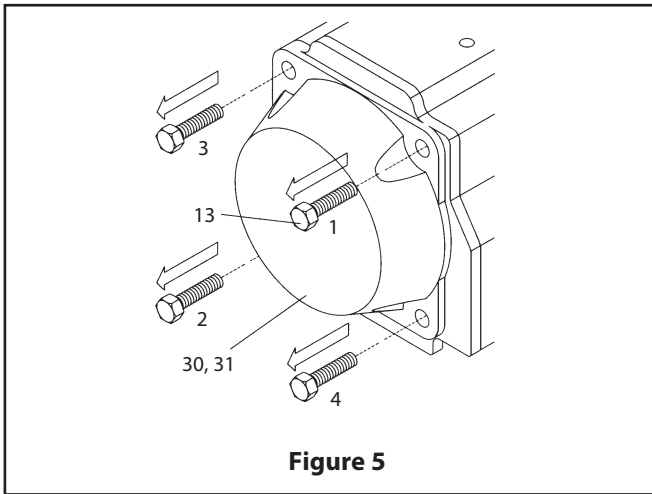
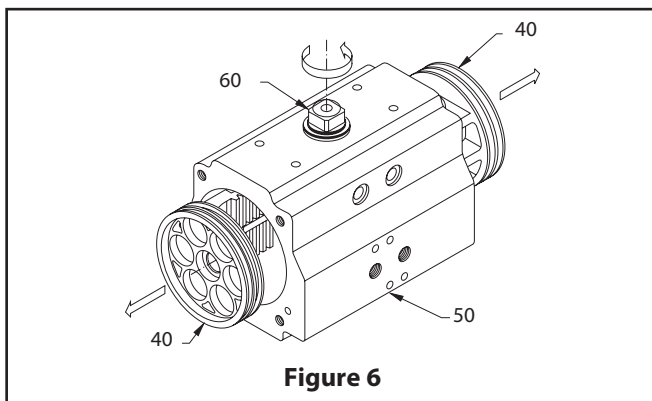

Figure 5
Figure 6
- A. Remove both stop cap screws (02) together with nut (04) and washer (03).
- B. Remove stop screw o-rings (11) and discard if replacing all soft parts.
3. End Cap (30, 31) Disassembly, (Figure 5):
- A. Remove the end cap bolts (13) in the sequence shown in (Figure 5). **CAUTION: When disassembling a spring return actuator, the end cap (30, 31) should be loose after unscrewing end cap bolts (13) 4-5 turns. If there is still force on the end cap (30, 31) after 4-5 turns of the end cap bolt (13), this may indicate a damaged spring cartridge and any further disassembly should be discontinued. Further disassembly of the end-caps may result in serious personal injury. Return actuator to Metso for further maintenance.**
- B. For spring return actuators, remove spring cartridges (17).
- C. Remove end-cap o-rings (14) and discard if replacing all soft parts.
4. Piston (40) Disassembly, (Figure 6):
- A. Holding the body (50) in a vice (or similar device), rotate the drive shaft (60) until the pistons (40) are released. **CAUTION: Air Pressure should not be used to remove the pistons from the body.**